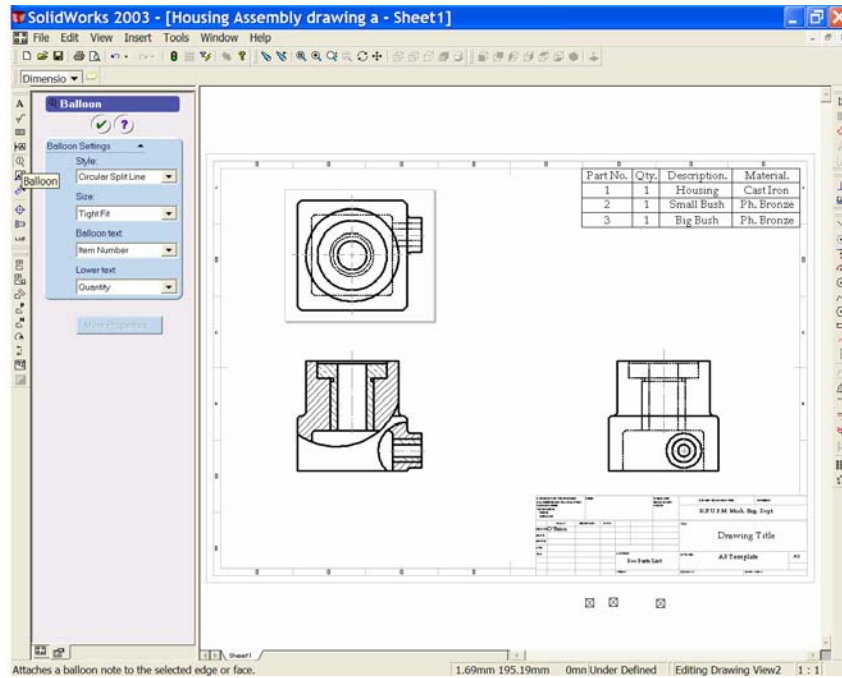

Figure 13
21. We now add 'Balloon References' to the drawing; click 'Balloon' on the 'Annotations Toolbar'. The 'Balloon Property Manager' opens. See Figure 13.